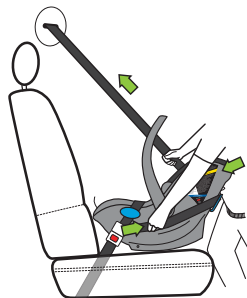

Figure 79
- Use your body to push and wiggle the Carrier into the vehicle seat back while pulling shoulder belt to remove all slack, as shown in **Figure 79**.